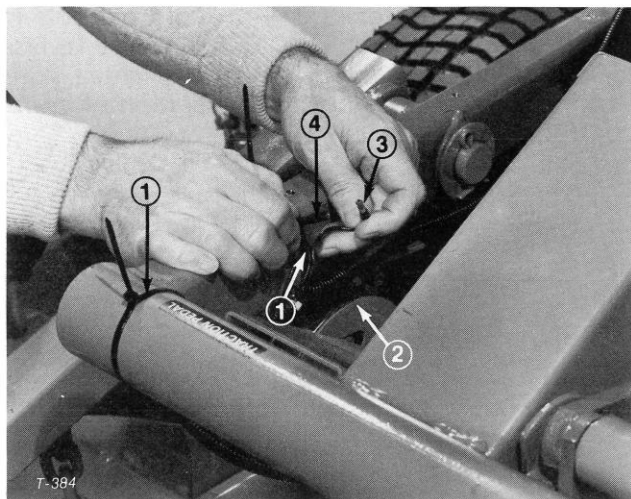

Figure 32
1. Route harness down past steering gear box out under front frame member to right front corner of machine. Pull slack out of harness and secure to front frame with cable tie (Fig. 32).
2. Route harness across top of coil and connect bullet connector on coil wire to harness connector (Fig. 32). Loop excess coil and harness wire together and secure to right side of frame with cable tie (Fig. 32).